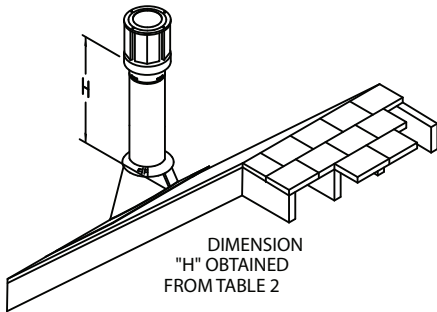

Figure 17
Step 8. Continue to add Pipe Sections until the height of the system (before adding the Cap) meets the minimum building code requirements as described in (**Table 3 and Fig. 17**). Note that for steep roof pitches, the vent height must be increased. In high wind conditions, nearby trees,